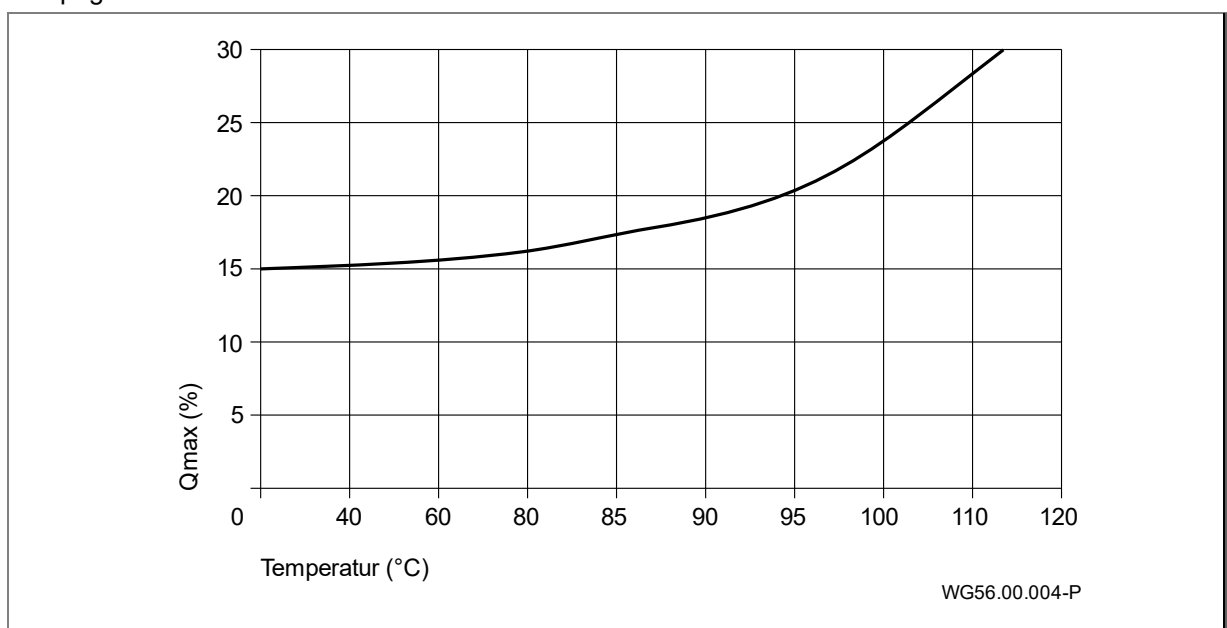

Fig. 1
- ➔ The minimum flow rate must be adhered to. The minimum flow rate corresponds to a percentage of the maximum flow rate $Q_{\max}$ dependent on the temperature of the pumped fluid. See "Fig. 1" on page 10